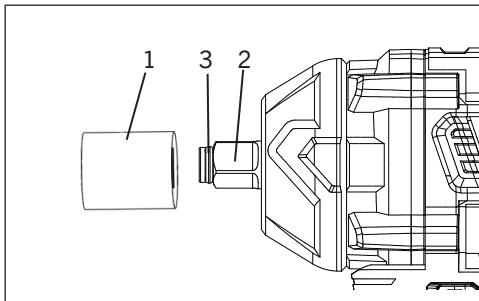

FIG. 4
To install a socket, press the square portion of the socket (1) onto the square drive (2) of the impact wrench (Fig. 4).